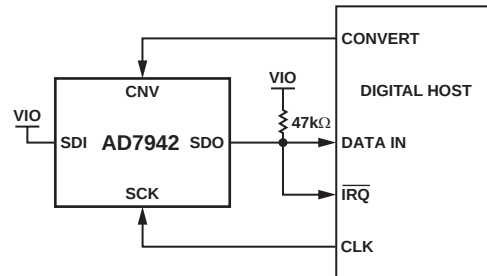
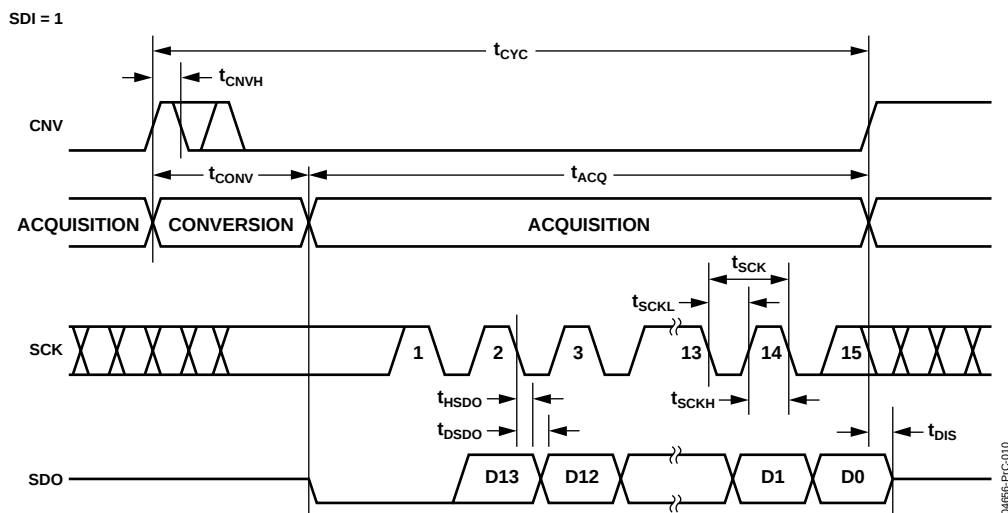
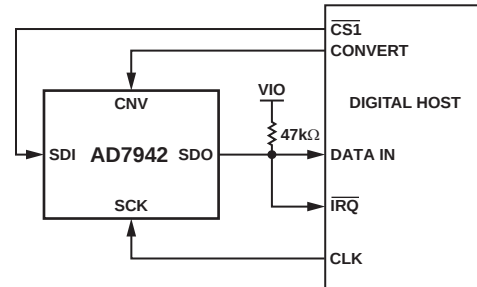
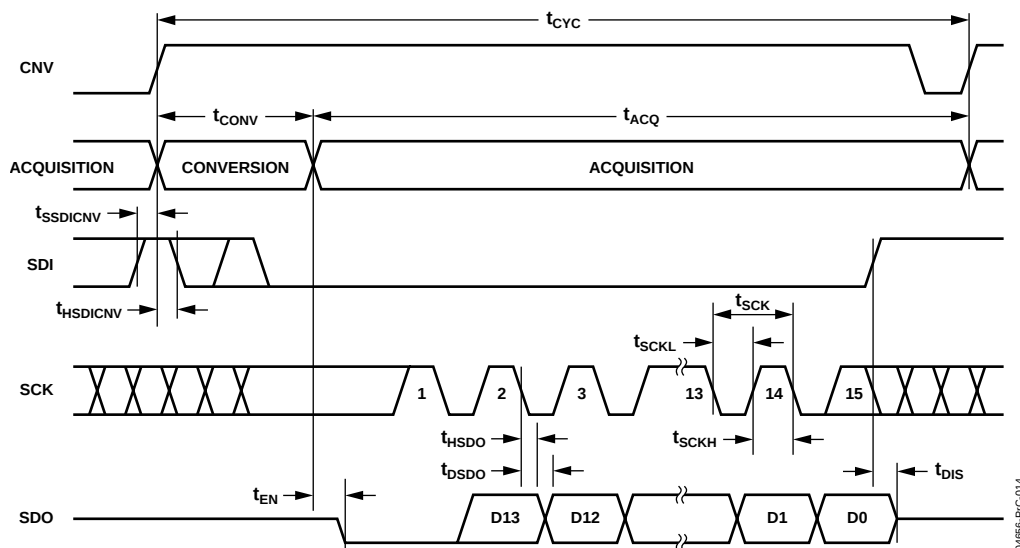

Figure 31. $\overline{CS}$ Mode 3-Wire with *BUSY* Indicator Connection Diagram (SDI High)
Figure 32. $\overline{CS}$ Mode 3-Wire with *BUSY* Indicator Serial Interface Timing (SDI High)
Figure 35. $\overline{CS}$ Mode 4-Wire with *BUSY* Indicator Connection Diagram
Figure 36. $\overline{CS}$ Mode 4-Wire with *BUSY* Indicator Serial Interface Timing
- In the $\overline{\text{CS}}$ mode, if CNV or SDI is low when the ADC conversion ends (Figure 32 and Figure 36).
The connection diagram is shown in Figure 31 and the corresponding timing is given in Figure 32.
The connection diagram is shown in Figure 35 and the corresponding timing is given in Figure 36.